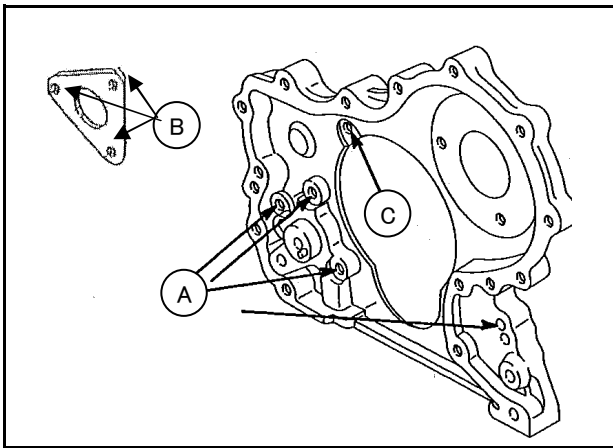

Fig.13-Installing Timing Gear Case
2. Install timing gear case with new gasket. Install camshaft retainer, Fig.13.